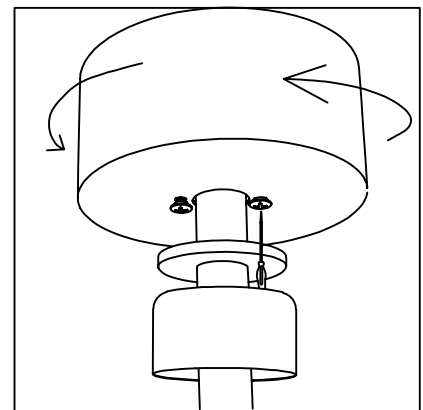

Figure 4.2
- Rotate the canopy upwards towards the screws on the hanger and tighten the screws. (Figure 4.2)